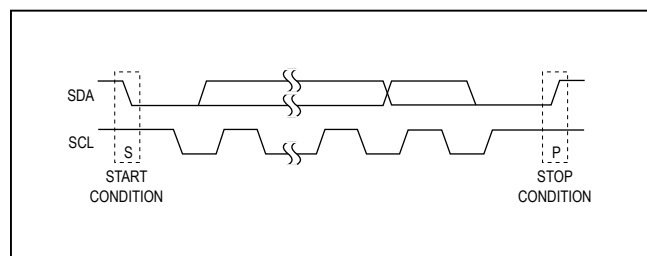

Figure 2. Start and Stop Conditions
Each transmission consists of a START condition sent by a master, followed by the MAX7322's 7-bit slave address plus  $R/\overline{W}$  bit, one or more data bytes, and finally a STOP condition (Figure 2).
Both SCL and SDA remain high when the interface is not busy. A master signals the beginning of a transmission with a START (S) condition by transitioning SDA from high to low while SCL is high. When the master has finished communicating with the slave, the master issues a STOP (P) condition by transitioning SDA from low to high while SCL is high. The bus is then free for another transmission (Figure 2).